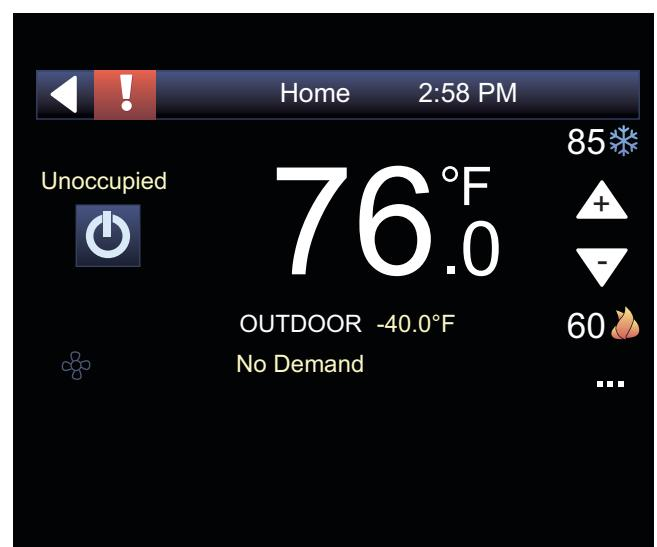

Fig. 13 – Firmware Successfully Upload
5. After successful upload, Equipment Touch displays the following screen (Fig. 13).